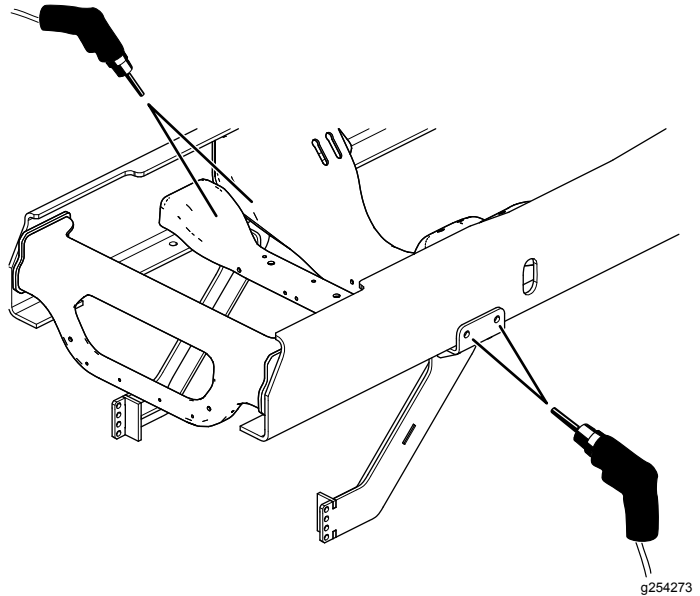

Figure 4
7. Using the angle bracket as a guide, drill out the 4 holes in the vehicle frame to 11/16 inches (Figure 4).